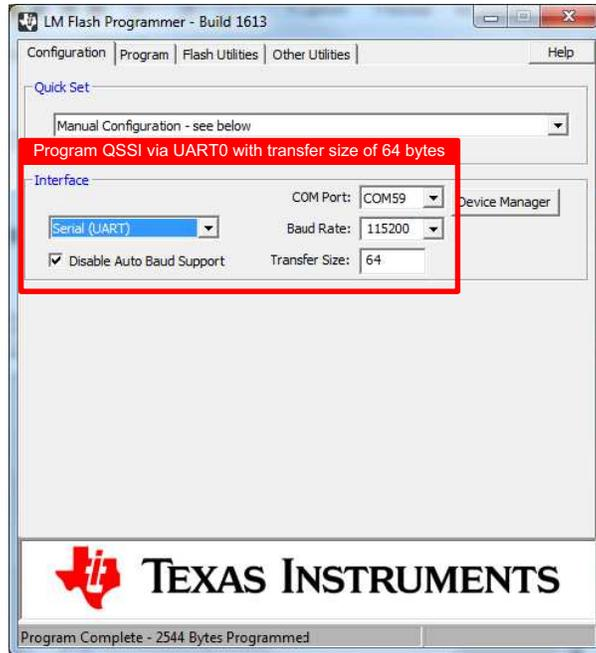
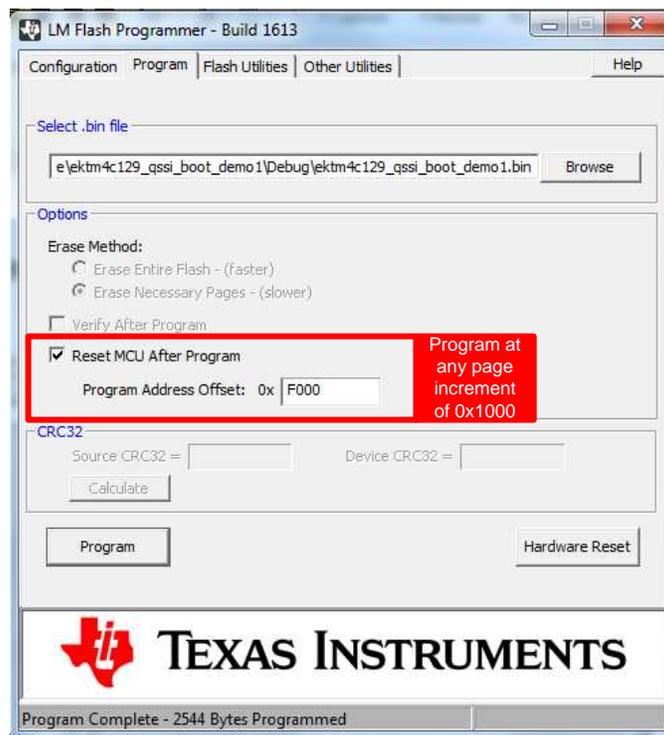

Figure 14. LM Flash Programmer QSSI Boot Demo1 Programming - Interface Settings (UART)
Figure 15. LM Flash Programmer QSSI Boot Demo 1 Programming - Options (Address Offset)
- Using the LM Flash Programmer in serial mode, download ektm4c129_qssi_boot_demo1. Ensure Disable Auto Baud Support is checked. Select the correct COM port. Ensure the Transfer Size is 64 bytes or less. On the Program Tab, select the Program Address Offset as the start of a sector of QSSI Flash other than Sector-0. (For the setting of the LM Flash Programmer for downloading the demo code, see Figure 14 and Figure 15. When the demo code downloads, the LED D3 will start blinking.)